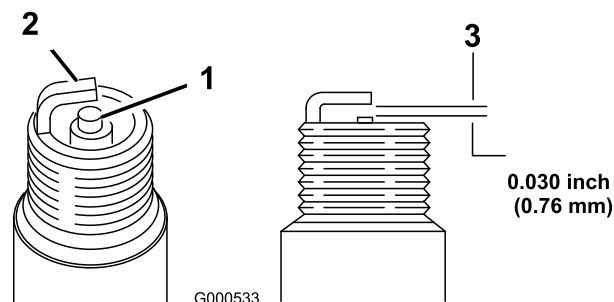

Figure 35
11. Set the gap on the plug to 0.030 inch (0.76 mm) (Figure 35).